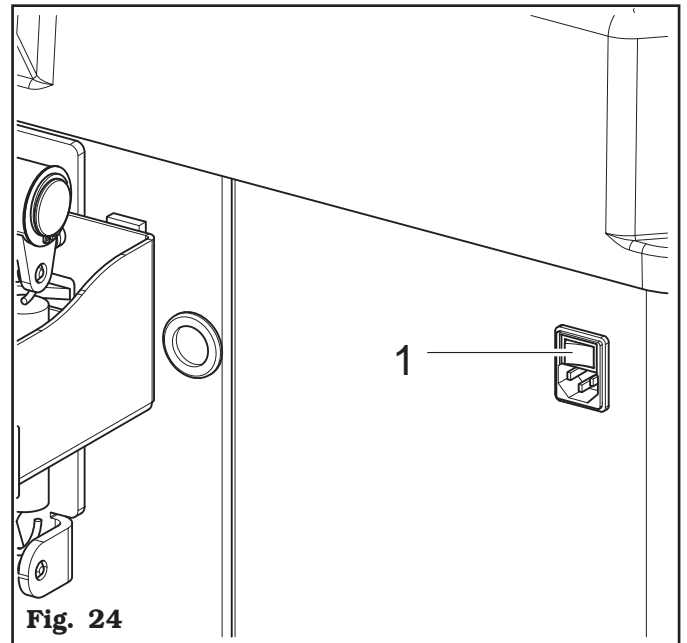

Fig. 24
Once the plug/socket connection has been made, turn on the machine using the master switch (**Fig. 24 ref. 1**).